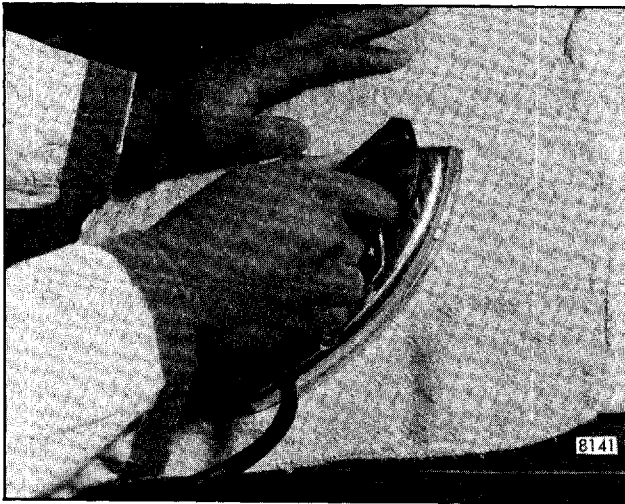

Fig. 8-41-Removing Wrinkles with a Dampened Cloth and Home Type Iron
2. Using a household type flat iron with heat control set for medium heat (cotton or lower), iron wrinkled area (Fig. 8-41).